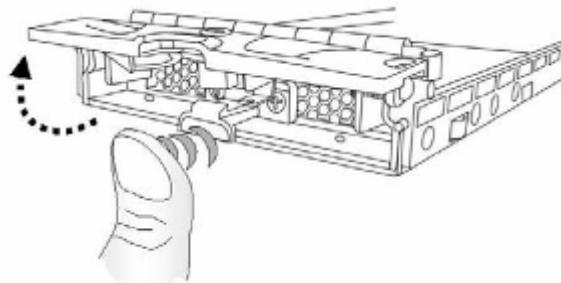

Figure 2-6: Opening the Drive Tray Front Flap
- Step 2.** Open the front bezel on the drive tray (see *Figure 2-6*) by pressing the release button. The front flap will swing up into position.